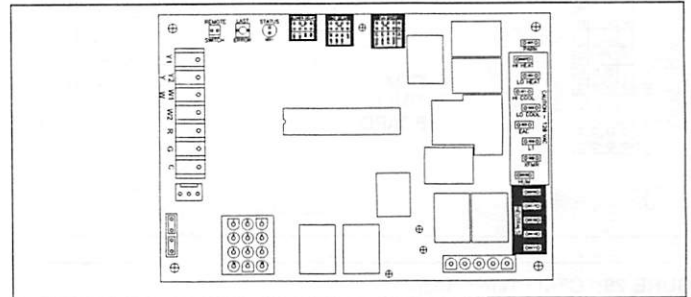

FIGURE 28: Furnace Control Board
Manifold gas pressure may be measured by connecting the "U" tube manometer to the gas valve with a piece of tubing and on an adapter. Follow the appropriate section in the instructions below. Refer to Figure 28 for a drawing of the locations of the pressure ports on the gas valve.
4. Remove high adjustment seal screw to expose the 3/32". See Figure 28.
4. Remove low adjustment seal screw. See Figure 28.